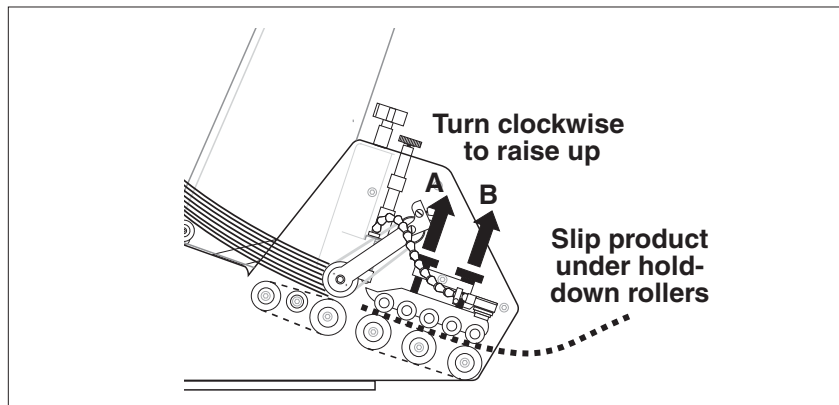

Figure 2-13. Inserting One Piece of Product Under Hold-down
1. Insert one piece of product to be fed under the hold-down assembly (Figure 2-13). To facilitate this, turn all knobs clockwise several turns.